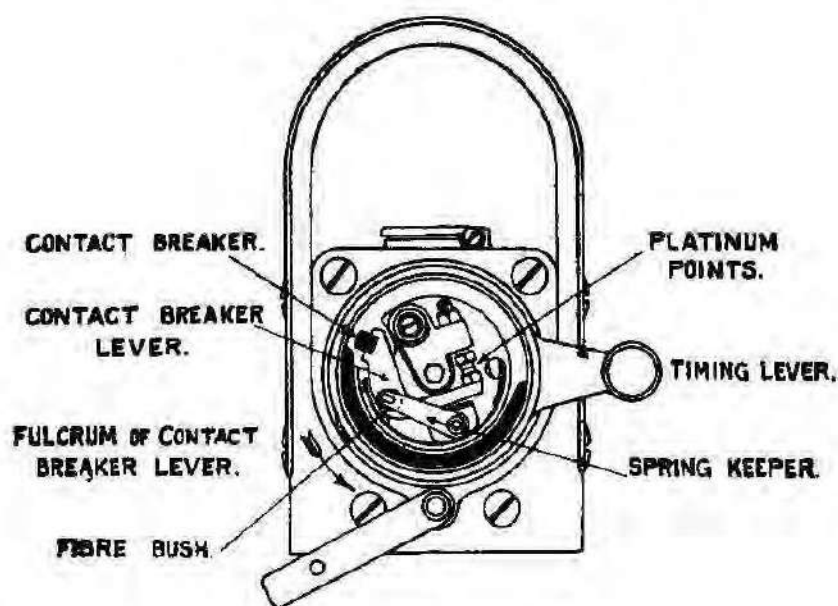

Fig. 8—Magneto Details.
- 41—IGNITION.** The faster the speed the more the ignition lever needs to be advanced (lowered). The slower the speed the more the ignition lever needs to be retarded (raised). *See Fig. 8.* The magneto is set, when the engine is tested, so that at the maximum list speed the magneto lever is as low as it will go. With *Suction Gas Engines* the ignition lever will require to be adjusted to suit the load on the engine and the condition of the producer plant. Generally speaking the ignition lever may be advanced, but if the fire in the producer is dull it can be made brighter by retarding the magneto lever to the middle position for a few minutes.
46—RUNNING AT NO LOAD OR LIGHT LOAD. When *Paraffin Engines* run for any length of time at or near no load there is a tendency for the vaporiser to become cool. This can be prevented by adjusting the needle valve to about one turn open and retarding the magneto lever to about the middle position, as shown in *Fig. 8*. This may also be done with Benzol, Alcohol, and Suction Gas Engines at no load or very light load.
- 57—RETARDING IGNITION WHEN STARTING.** *Danger.* The engine must never be started unless the ignition is retarded, otherwise there is a danger of the charge in the cylinder being ignited before the crank has passed the back dead centre, in which case the direction of rotation of engine and starting handle may be suddenly and powerfully reversed, with the possibility of injury to the attendant. See Fig. 8.
Setting the Magneto.—The only adjustment necessary is at the platinum points of the contact breaker (*see Fig. 8*). At the instant when the armature has just passed the magnet and the electric current is strongest, the platinum points become separated. The gap between the platinum points when they become separated *should* be $\frac{1}{64}$ th in. (0.4 mm.) *This requires extremely careful setting* (a small spanner with a gap gauge pivoted to it is included with the spare parts). At all other times the platinum points are pressed together by a light spring. In the illustration shown in *Fig. 8*, the contact lever is just about to break the contact between the platinum points, by means of the end of the revolving lever touching the end of stationary half ring. These two parts are shown in heavy black in the illustration.